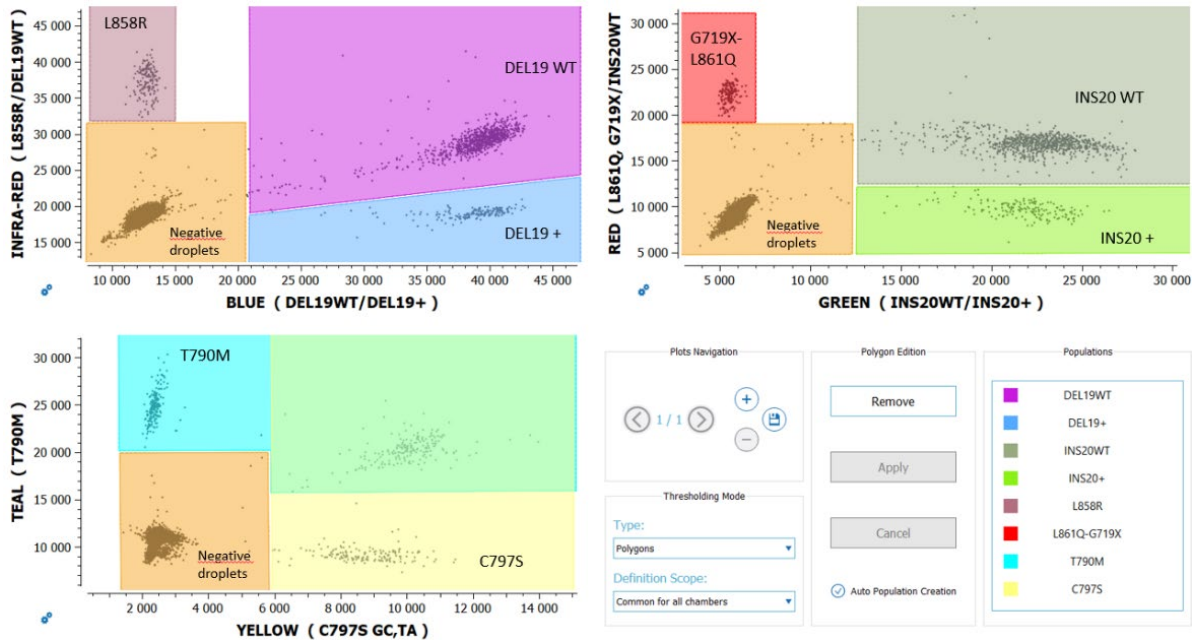

Figure 5: An example illustrating correct placement of the polygons on the positive control in the Nio™ Analyzer software.
3. Check or manually adjust the position of the polygons for each target population listed in the “Populations” widget for the **positive control** of the run (refer to the example in Figure 5 below).